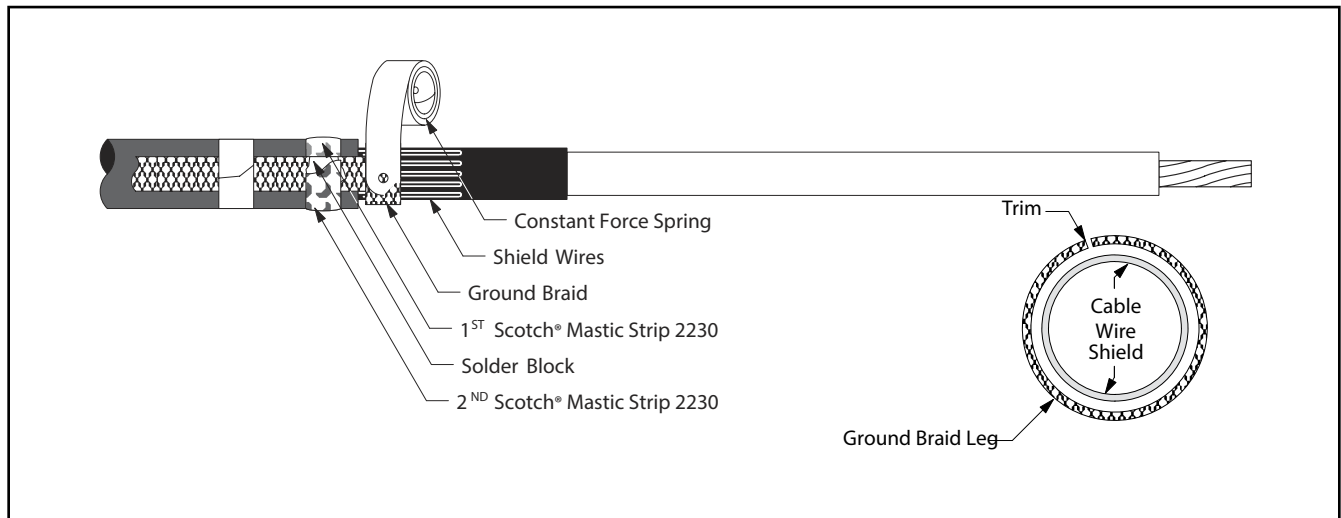

Figure 12
- 7.3 Wrap ground braid around cable shield wires one complete wrap, trim excess to prevent overlap and secure in place with constant force spring. Wrap spring in same direction as ground braid (*Figure 12*). Cinch (tighten) the spring after wrapping the final winding.
- 7.4 Select second Scotch® Mastic Strip 2230 from kit and remove white release liners. Apply a second **SINGLE WRAP** of mastic over solder block on ground braid and previously applied mastic (*Figure 12*). Cut off excess.